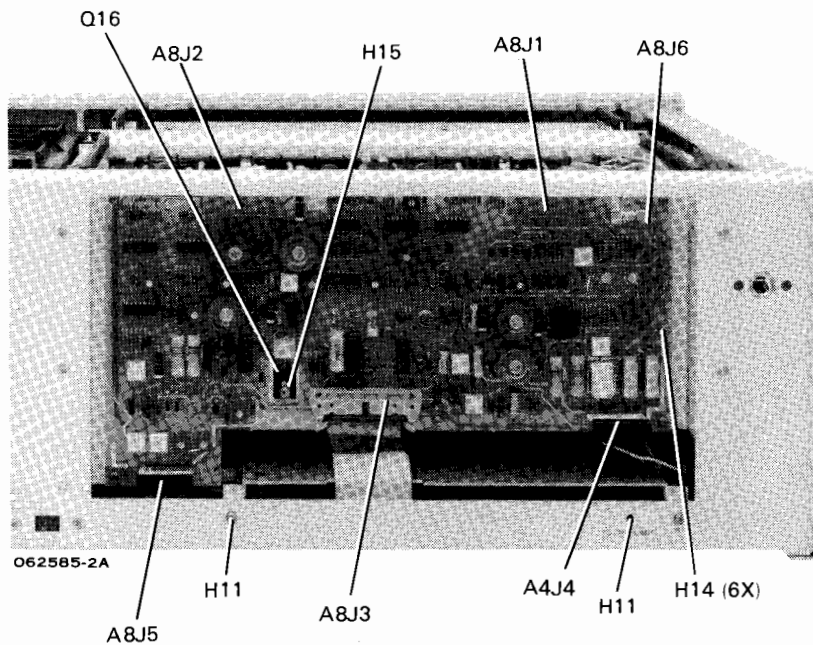

Figure 4-6. Z-Axis and High Voltage Assembly Removal
- a. Remove power from instrument. Disconnect all cables at A8J1 through A8J6. See figure 4-6.
- c. Reverse the above procedure to install the new module. See figure 4-6.